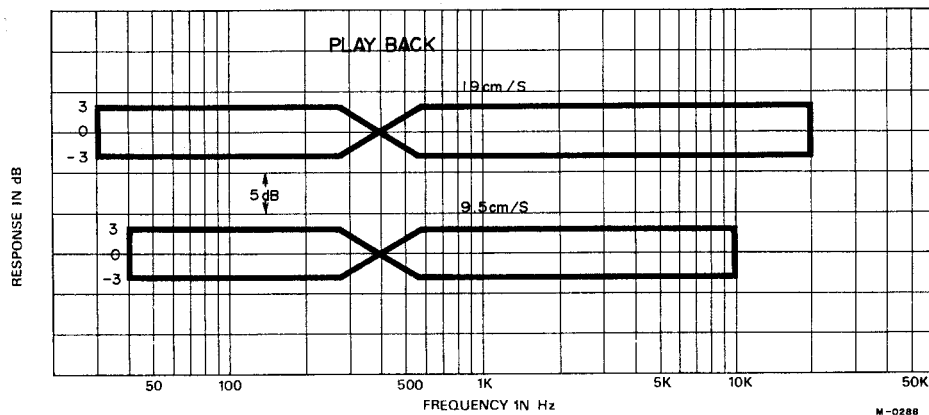

Fig. 7-3 Frequency Response -playback-
2. Compare the readings obtained on the level meter with the response limits given in Fig.7-3